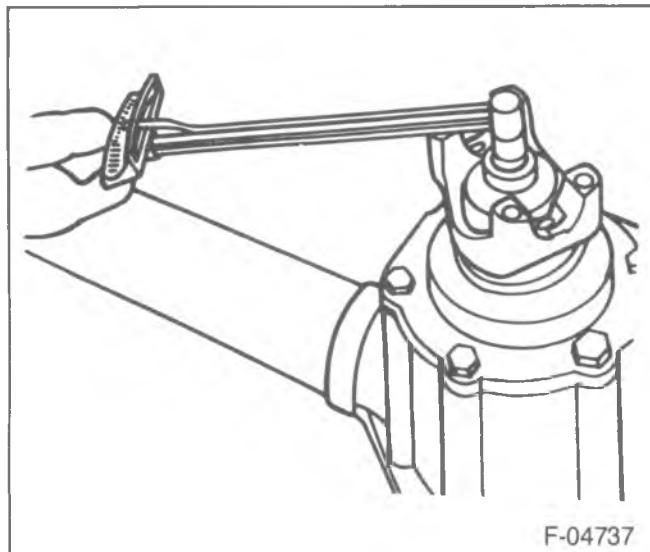

Figure 75—Checking Pinion Preload
- Remove J-8614-01. Using an inch-pound torque wrench, check the pinion preload by rotating the pinion with the wrench. Preload should be at or below 2.8 to 4.0 N·m (25 to 35 in. lbs.) for new bearings, or 0.56 to 1.7 N·m (5-15 in. lbs.) for used bearings (figure 75).